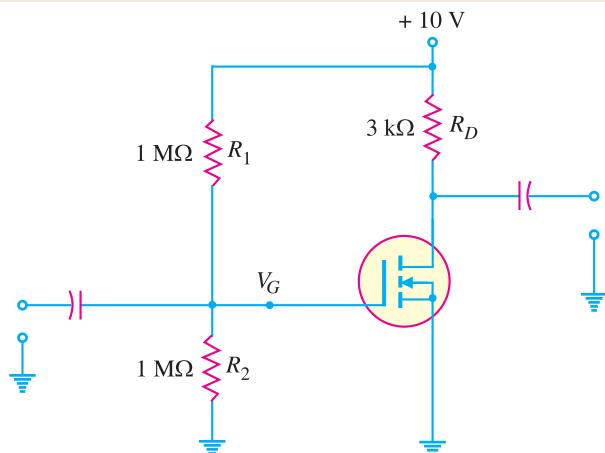

Fig. 19.63
**Example 19.38.** Determine the value of  $I_D$  for the circuit shown in Fig. 19.63. The data sheet for this particular MOSFET gives  $I_{D(on)} = 10 \text{ mA}$  at  $V_{GS} = 10 \text{ V}$  and  $V_{GS(th)} = 1.5 \text{ V}$ .